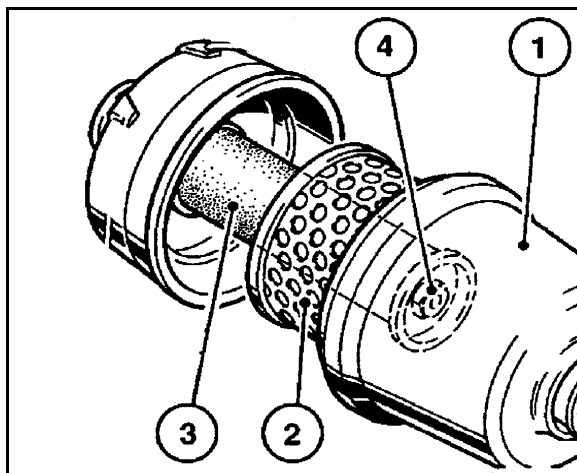

Fig. 146
1. Undo the wing nut of the filter hood (Fig. 146/1).
2. Remove the filter hood and pull out the outer filter element (Fig. 146/2).
6. annually, renew the inner filter element (Fig. 146/3) (never clean it).
- o Loosen the hex. nut (Fig. 146/4) and pull out the inner filter element.